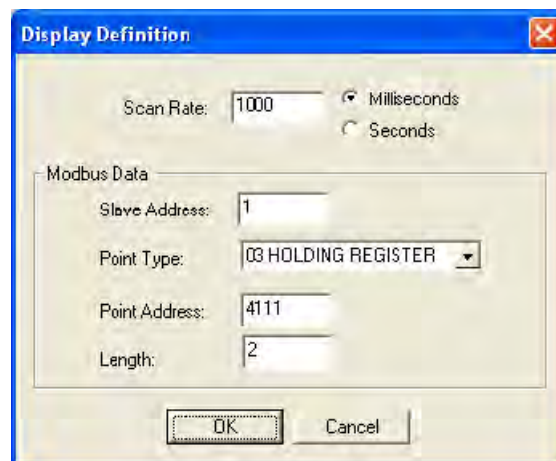

Figure 50 – ModScan32, Data Definition
1. Start the ModScan32 program and set the data definition (register #4111 and #4112) as shown in Figure 50 below. (Set *Length* to “2” to include the 2nd subsequent register, 4112.)